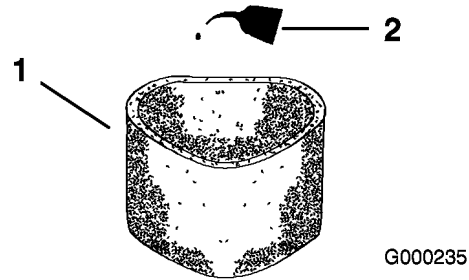

Figure 27
1. Do not clean the paper filter. Replace it after 200 operating hours (Figure 27).